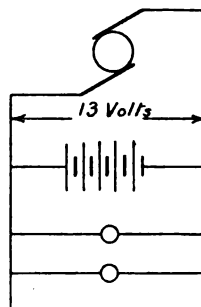
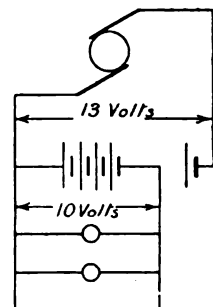

FIG. 1.
FIG. 2.
(1) Is it not a fact, Sir, that the *dynamo* supplies the lamps, and not the battery? It seems impossible to me that a battery can be charging and discharging at one and the same time, and from Fig. 2 (if I interpret the diagram aright) the battery and lamps are in parallel with the dynamo; therefore, if the dynamo was giving its full charging voltage of, say 13 volts—no matter how many cells might be cut-out—the lamps would still receive the 13 volts.
(2) Then, again, Mr. Kennard says it is essential that the proper rate of charge for the battery should be maintained. I cannot see what provision is made for doing this, and the only method that occurs to me is to alter the speed of engine as desired, which one cannot consider a good arrangement.
(3) Another point is with reference to the lighting of the lamps from battery. During the second half of the discharge the voltage will probably not amount to 10, and when to this is added the drop on the wiring, the voltage at the lamps (at any rate, those at the farthest point) would only be 9, thereby causing disappointment in the reduced candle-power of the lamps.
(1) In Fig. 1 the battery of five cells in series, together with the two lamps, are connected in parallel across the dynamo terminals. There will be, therefore, the same fall of potential across the lamps as across the battery, viz., about 13 volts. But if, as in Fig. 2, the connections be altered so as to put the combination of four cells in series in parallel with the lamps, the remaining cell will then be in series with this combination. All the current supplied from the dynamo will flow through cell No. 1 before reaching the four remaining cells or the lamps. As each cell requires a pressure of about $2\frac{1}{2}$ volts to overcome its internal resistance and back E.M.F. on charge, therefore the four cells in series and the lamps will receive about $10\frac{1}{2}$ volts.
(2) It is not possible to maintain the charging